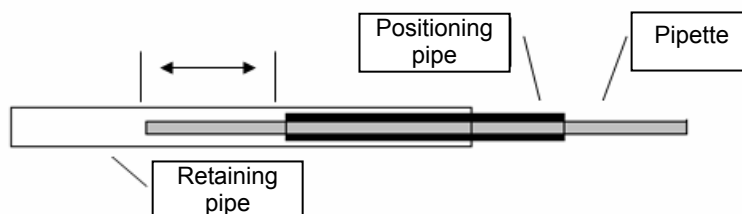

Fig. 5-1 Pipette joint applied to the inlet of the flow cell
- Remove the pipette at the inlet, and replace it with a new one; Push into the positioning pipe (with larger diameter) from one end of the new pipette, and then push into the retaining pipe (with the largest diameter); Remain a portion of pipette with a length of 1 cm outside of the positioning pipe (as shown in Fig. 5-1);